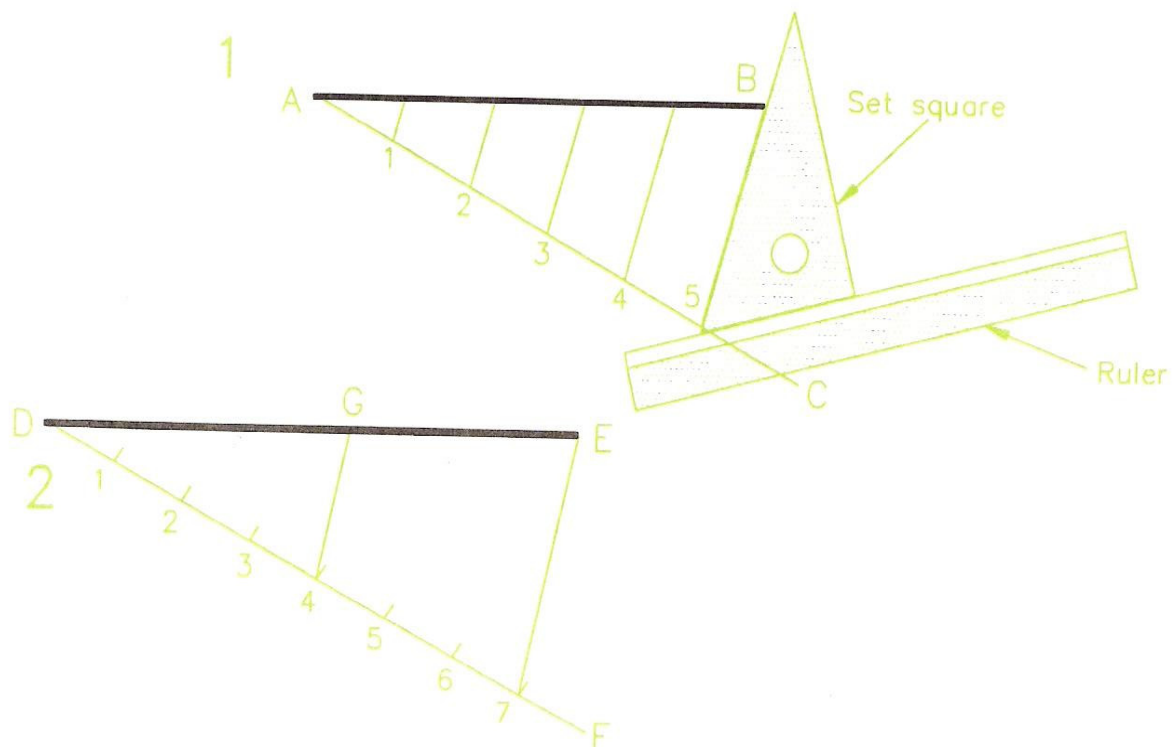

Figure 5 - Dividing a Line into Parts
1. Drawing 1 (Figure 5) - Draw line AB 93 mm long with a Tee square.
2. Draw line AC from A at any angle to AB. The angle should be similar to that shown in Figure 5.
1. Drawing 2 (Figure 5) - Draw line DE 147 mm long.